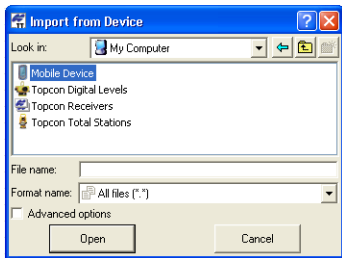

Figure 2-8. Connected Device(s)
3. Once Microsoft ActiveSync establishes a connection with the controller, double-click **Mobile Device** in the *Import from Device* dialog box (Figure 2-8).